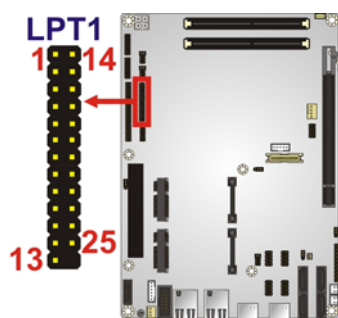

Figure 3-11: Parallel Port Connector Location
- CN Location:** See **Figure 3-11**